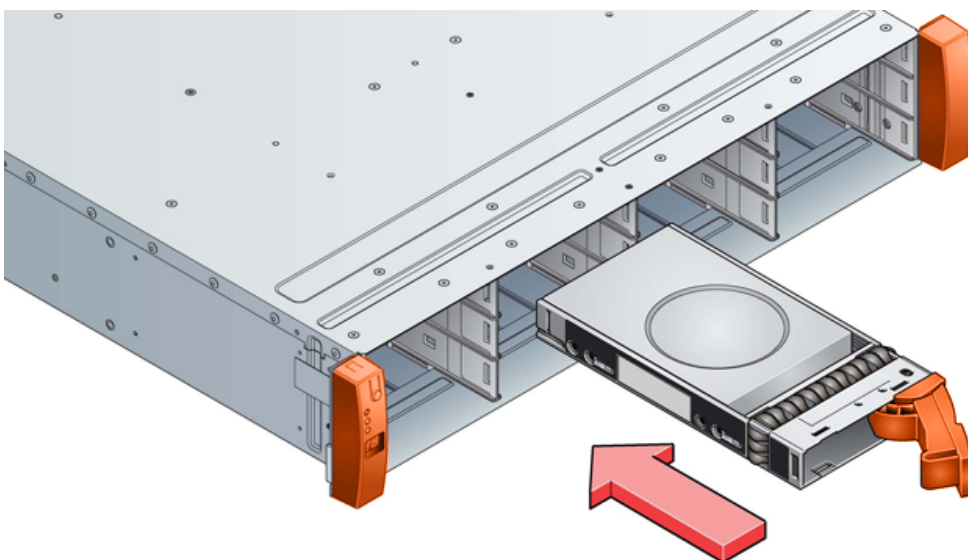

Figure 6-8 - Installing a Drive Carrier Module (2)
2. Insert the Drive Carrier Module into the enclosure (Figure 6-8). **Important:** Ensure that the drive carrier is orientated so that the drive is uppermost and the handle opens from the left, as shown in Figure 6-8.